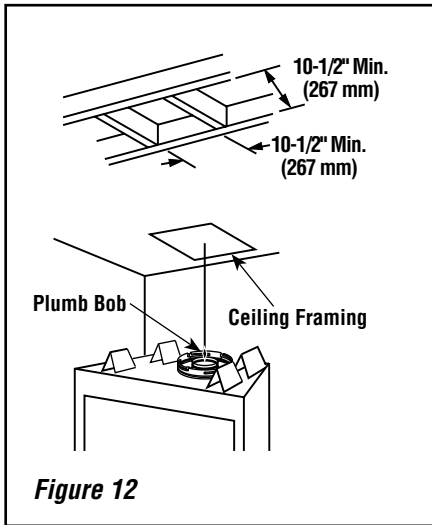

Figure 12
- Meters (M) = Inches x .0254
A. Frame ceiling opening - Use a plumb line from the ceiling above the appliance to locate center of the vertical run. Cut and/or frame an opening, 10-1/2" x 10-1/2" (267 mm x 267 mm) inside dimensions, about this center mark (*Figure 12*).
C. Frame ceiling opening - If the vertical route is to penetrate a ceiling, use plumb line to locate the center above the appliance. Cut and/or frame an opening, 10-1/2" x 10-1/2" (267 mm x 267 mm) inside dimensions, about this center (refer to **Figure 12 on Page 14**).